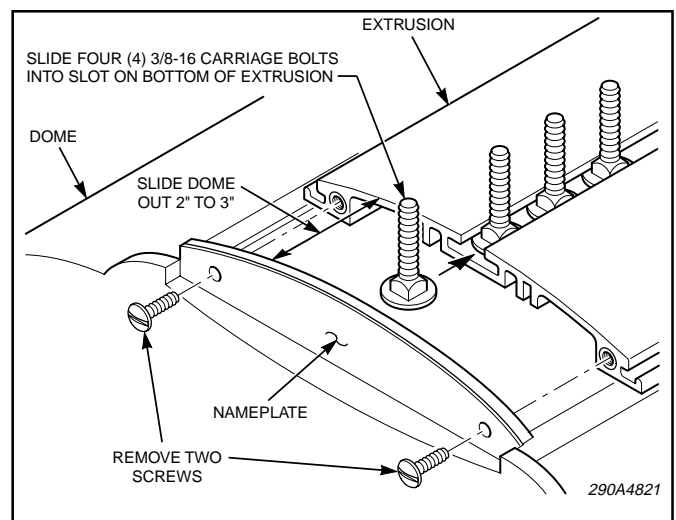

Figure 1.
1. Remove and retain the two screws, located at the identification plate, at one end of a dome assembly. Slide the dome assembly out about 4 to 5 inches, along the slots in the extrusion, as shown in figure 1.
3. Slide the four 3/8-16 carriage bolts into the slot in the extrusion as shown in figure 1.